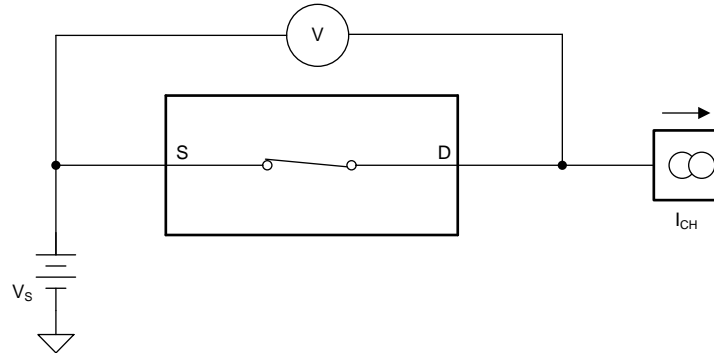

图 26. On-Resistance Measurement Setup
(1) X denotes *don't care*..
The on-resistance of the MUX36xxx is the ohmic resistance across the source (Sx, SxA, or SxB) and drain (D, DA, or DB) pins of the device. The on-resistance varies with input voltage and supply voltage. The symbol R_{ON} is used to denote on-resistance. The measurement setup used to measure R_{ON} is shown in 图 26. Voltage (V) and current (I_{CH}) are measured using this setup, and R_{ON} is computed as shown in 公式 1: